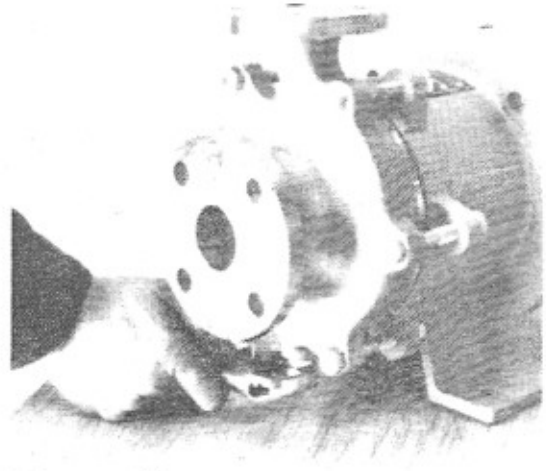

Figure 14
- A. Remove the casing drain plug and empty the pump of any remaining liquid [Fig. 14].